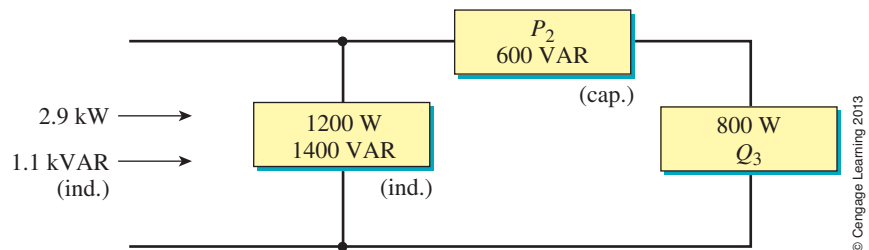

FIGURE 17-42
13. Refer to Figure 17-42. Find P_2 and Q_3 . Is the element in Load 3 inductive or capacitive?